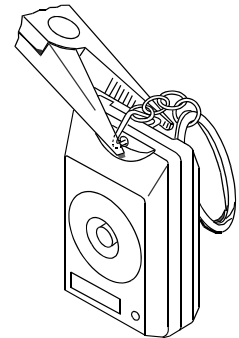

Figure 4. Key-ring Installation
E. Slip the key-ring triangle through the last link of the keyring chain and install the triangle into the hole on the top of the MCT-231 (Fig. 4).